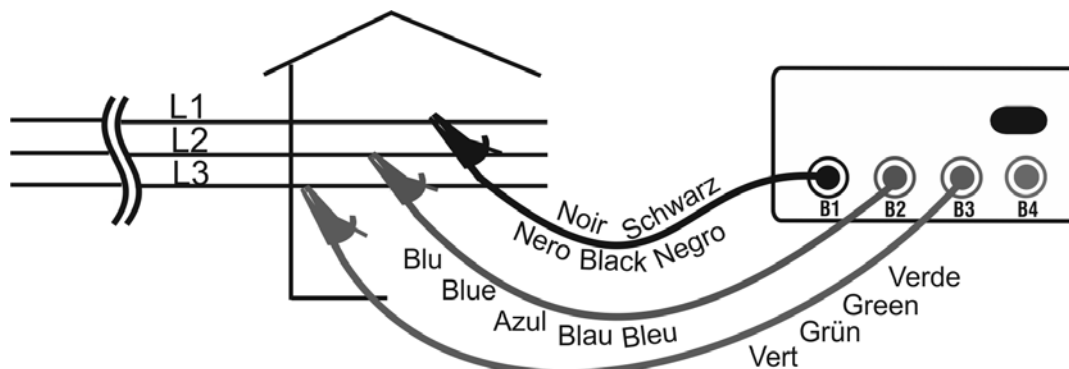

Fig. 16: Instrument connection for phase sequence test
3. Insert the alligator clips onto the conductors of the three-phase system (see Fig. 16)